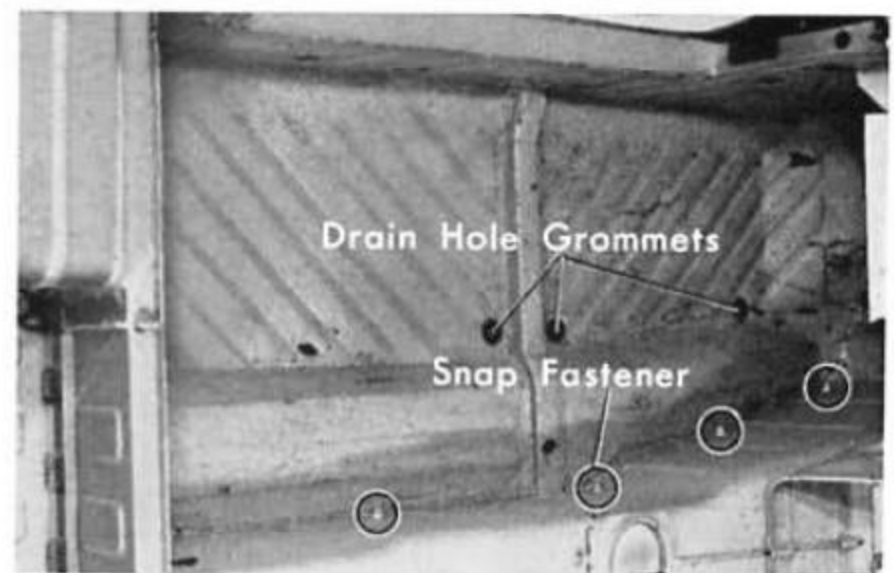

Fig. 17F-27.
60. Remove the drain hole grommet from the floor (Fig. 17F-27).